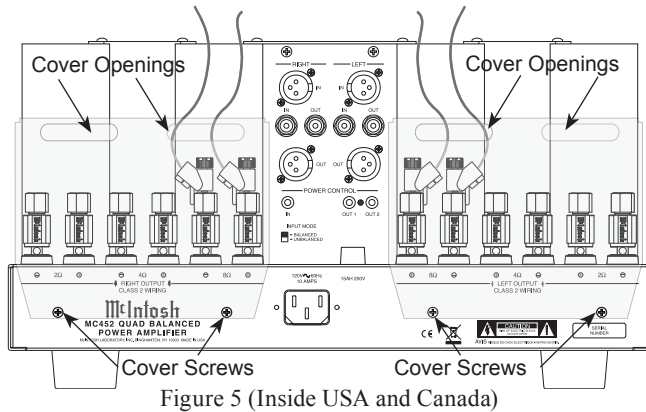

Figure 5 (Inside USA and Canada)
5. Locate the Terminal Connections Covers from the inside of the MC452 shipping carton. Insert the just prepared Loudspeaker hookup cables thru the cover openings, one cover for each channel. Refer to figure 5.
*Note: The illustration in figure 5 is connections for 8Ω (ohms) Loudspeakers.*
9. Attach the Terminal Connections Covers to the MC452 Rear Panel with the previously removed Screws. Refer to figure 5.